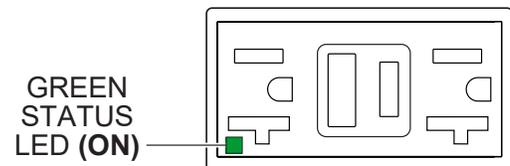

Figure 73. GFCI Receptacle (ON)
3. Verify that the **status LED** on the corresponding GFCI receptacle (Figure 73) is **ON (GREEN)**.